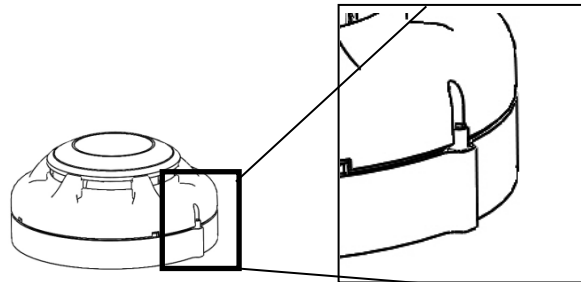

Figure 15: Position of the locking screw to lock the detector
3. Install the heat detector into the mounting base, making sure the wiring does not obstruct mounting of the detector head. Push the heat detector into the mounting base while turning it clockwise until the heat detector locks into place. Use a small hexagonal wrench to set the tamper resist feature (if required), see Figure 15.
The VDOT-UB series, VDOT-S6 Base, and VDOT-STB series of smoke/heat detector mounting bases have a tamper-resist feature that works in conjunction with the heat detectors. When this feature is enabled, the heat detectors cannot be removed from the base without the use of a small hexagonal wrench. To avoid unauthorized removal of the heat detector, turn the locking screw in the mounting base counterclockwise until the screw extends out about 4 mm (3/16 in.) from the rim of the base, as shown in the Figure 15.